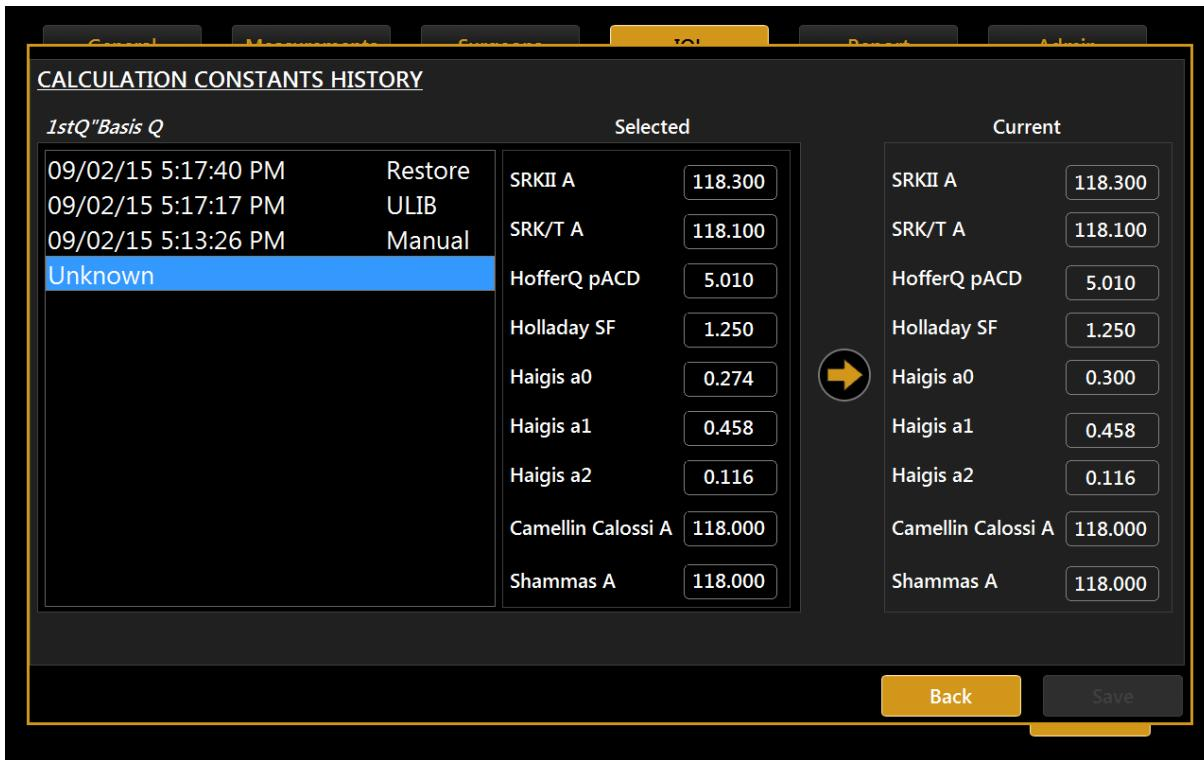

Figure 84
-  **Calculation Constants History:** gives information on every change of calculation constants values as shown in Figure 84.
-  **Calculation Constants History:** gives information on every change of calculation constants values. The layout is similar to the one in Figure 84.